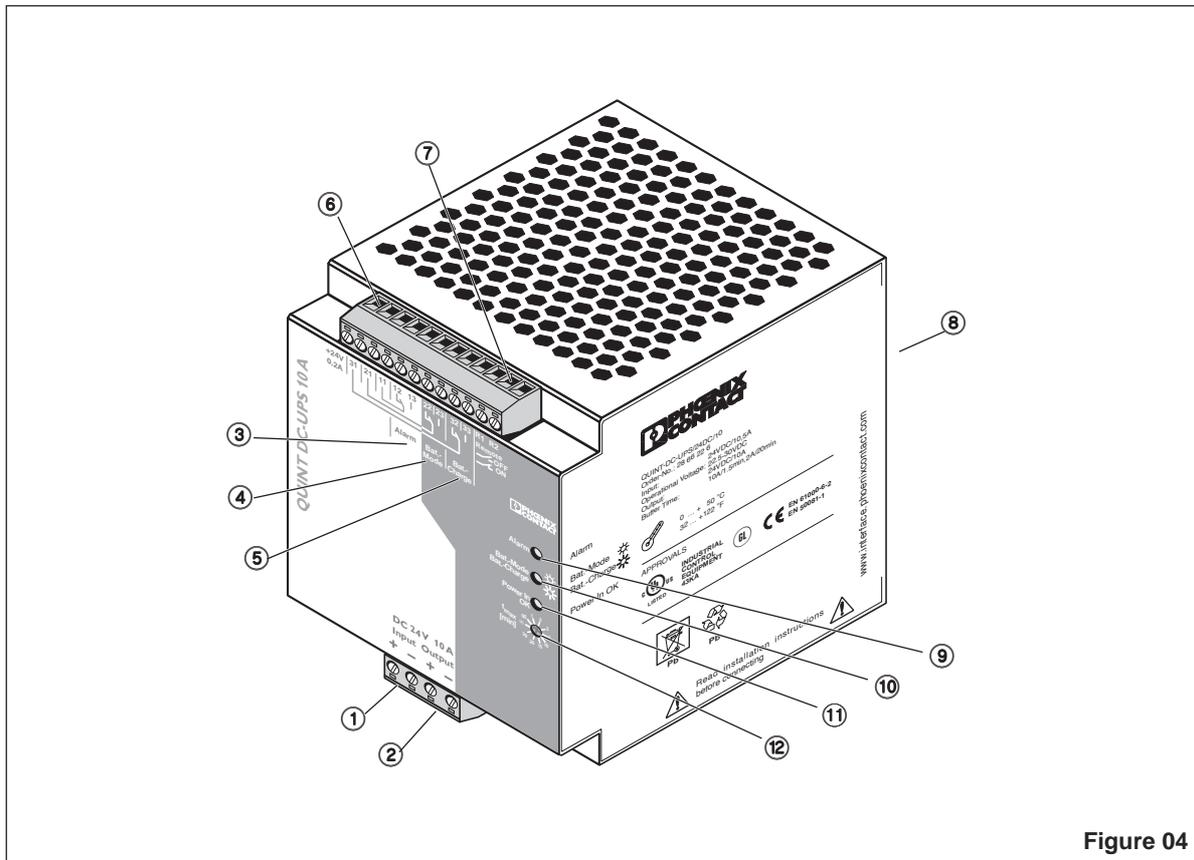
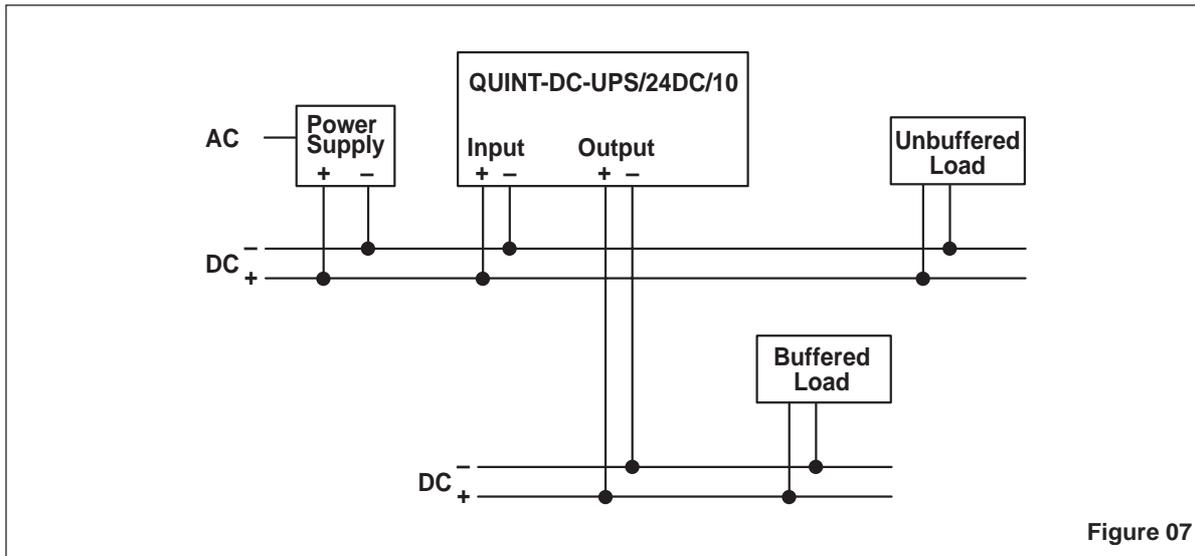
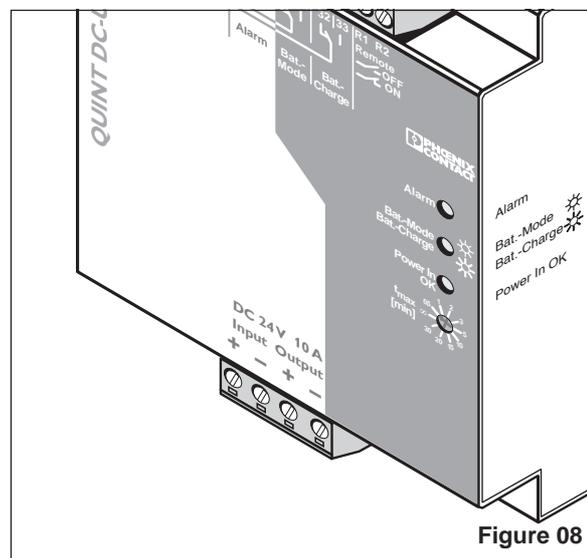

Figure 04
Figure 07
Figure 08
**5.4. Input (①, Figure 04, Figure 08)**
**5.5. Output (② Figure 04, Figure 07)**
All devices that must be supplied without interruption in the event of a supply voltage failure ("Buffered Load"), are connected to the "Output +" and "Output -" terminal blocks of the DC output (Fig. 07). It is recommended that all other loads, which do not require buffering ("Unbuffered Load"), are connected to the 24 V DC output of the power supply.